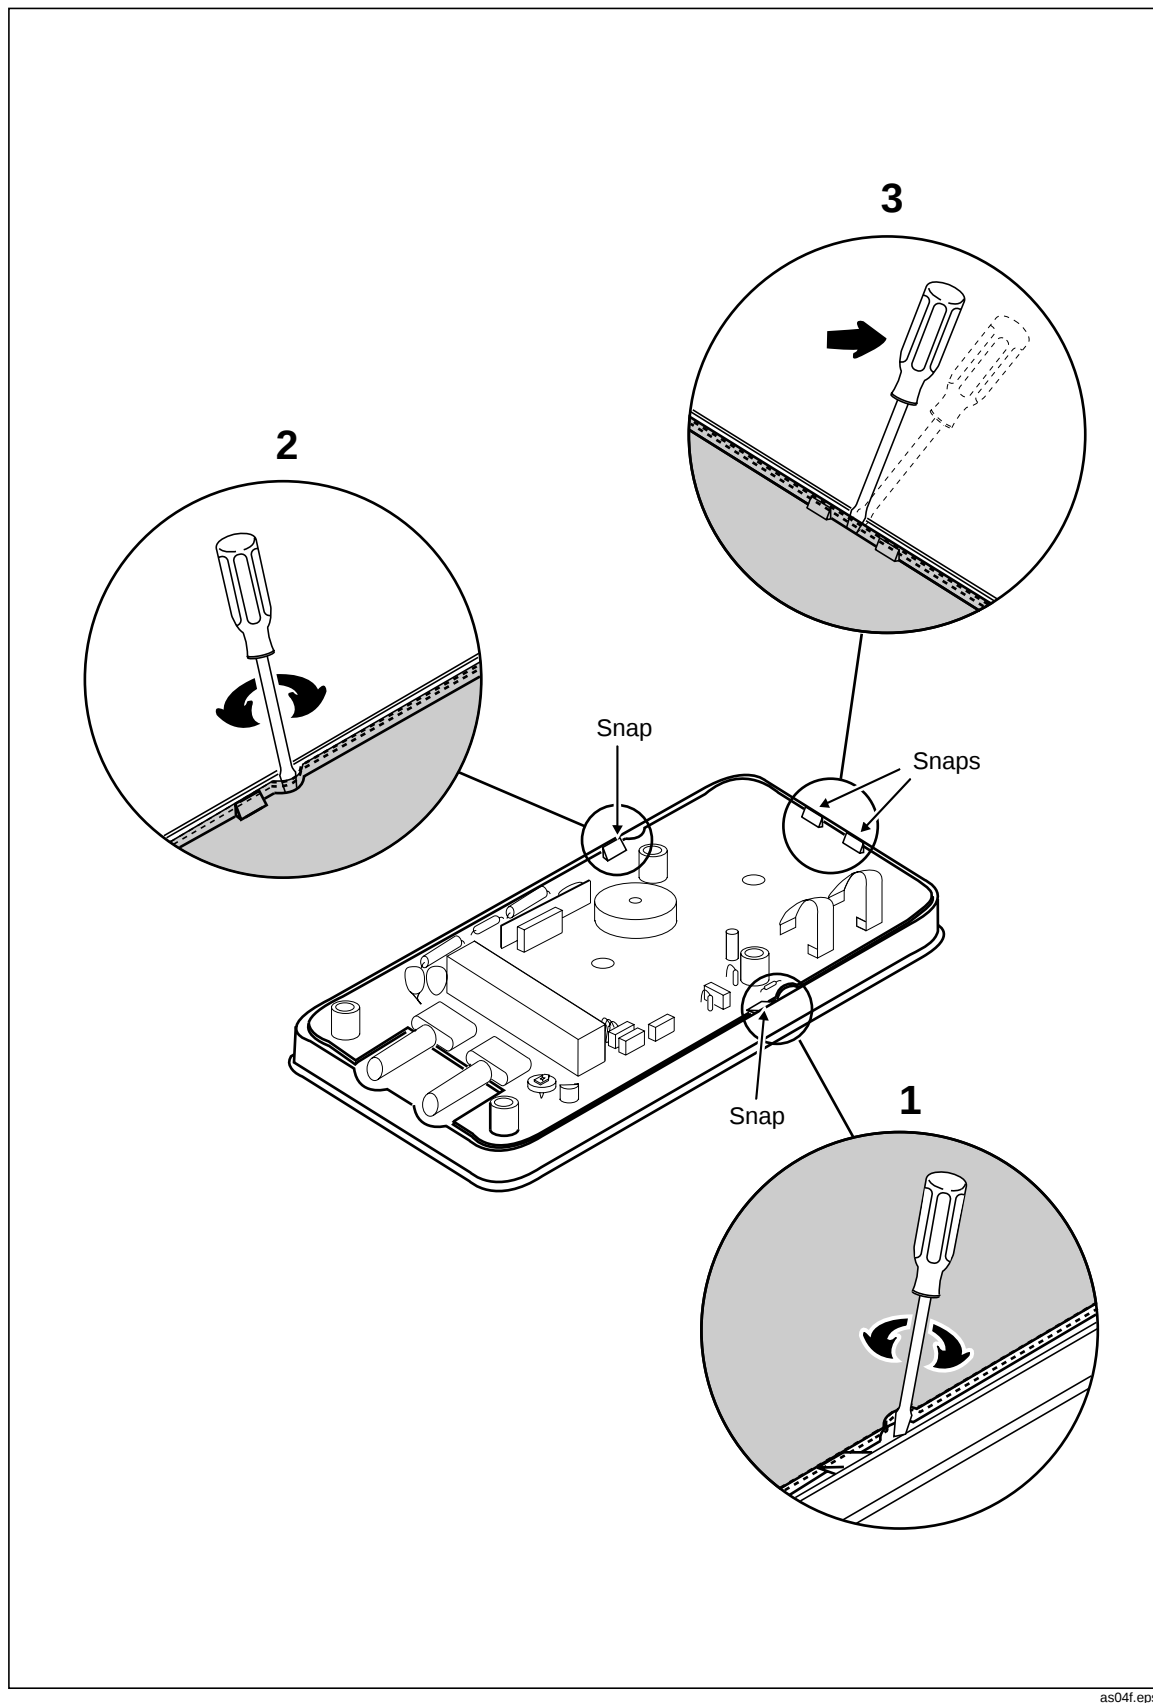

Figure 3-3. Removing and Reinserting the Printed Circuit Assembly
5. **TO REMOVE THE PCA (A1):** Insert a small, flat-blade screwdriver between the edge of the case top and the pca where shown in Figure 3-3. Gently unsnap a side of the case top from the pca. Repeat on the other side of the pca. Unsnap the case from the top of the pca last.
7. **TO REMOVE THE SWITCH SUPPORT (MP6):** Use a small, flat-blade screwdriver to gently unsnap the sides and top of the switch support from the snaps shown in Figure 3-3.